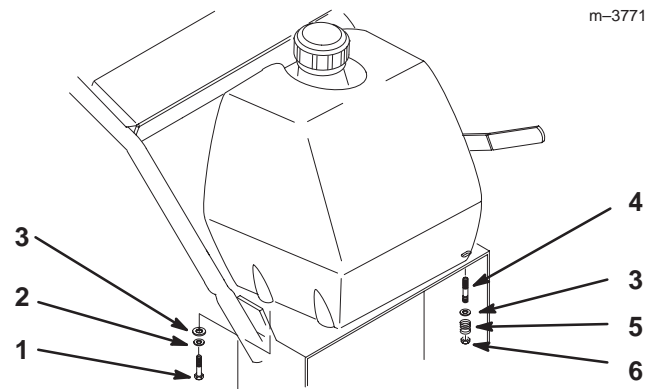

Figure 12
1. Align fuel tank with the top of the rear frame (Fig. 12).
2. Secure the right side of the fuel tank to the rear frame with 2 bolts (5/16 x 7/8 inch), lock washers (5/16 inch) and washers (5/16 inch) (Fig. 12).
3. Secure the left side of the fuel tank to the rear frame with 2 studs, washers (5/16 inch), springs and locknuts (5/16 inch) (Fig. 12).